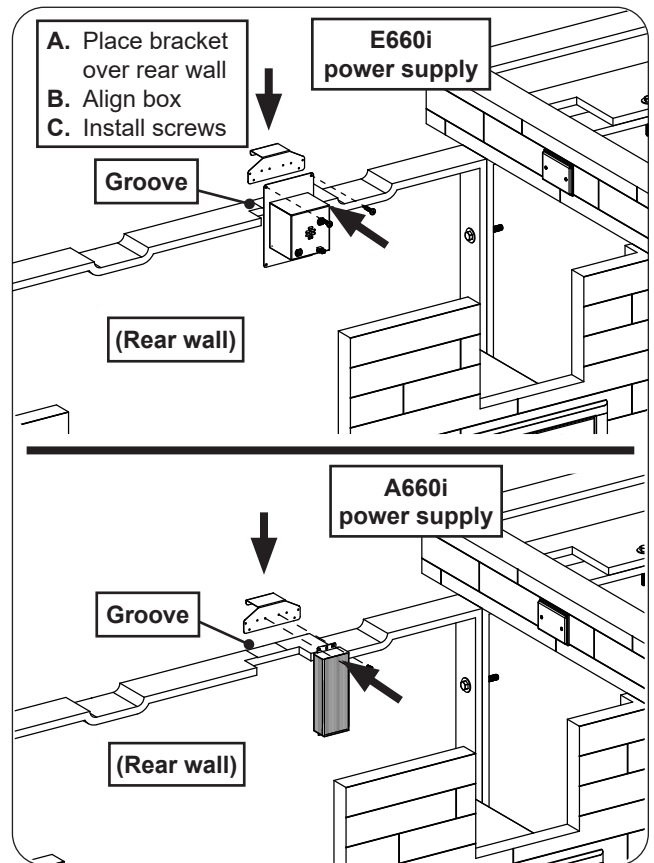

Fig. 17-1 Install power supply box
1. **First** place the power supply box bracket over the rear wall, in the groove just to the left of the top piece (see Fig. 17-1).
2. Disconnect the power supply harness extension from the grill/griddle, then align the pilot holes on the power supply box with the holes on the bracket. Insert the two Phillips screws and tighten with the power drill and #2 Phillips driver (see Fig. 17-1). **DO NOT OVERTIGHTEN.**